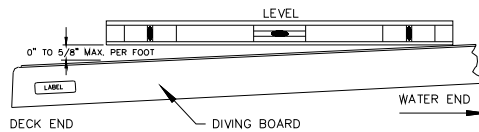

FIG.5
11. The top surface of the diving board from the deck end to the tip end shall be level or have an upward slope of 5/8" per foot (16 mm : 305mm) maximum. Elevation difference shall not exceed 6 inches (152mm) from the deck end to the tip of the board. There shall be no downward slope towards the water. The slope shall be measured using a level as shown in Fig. 5.